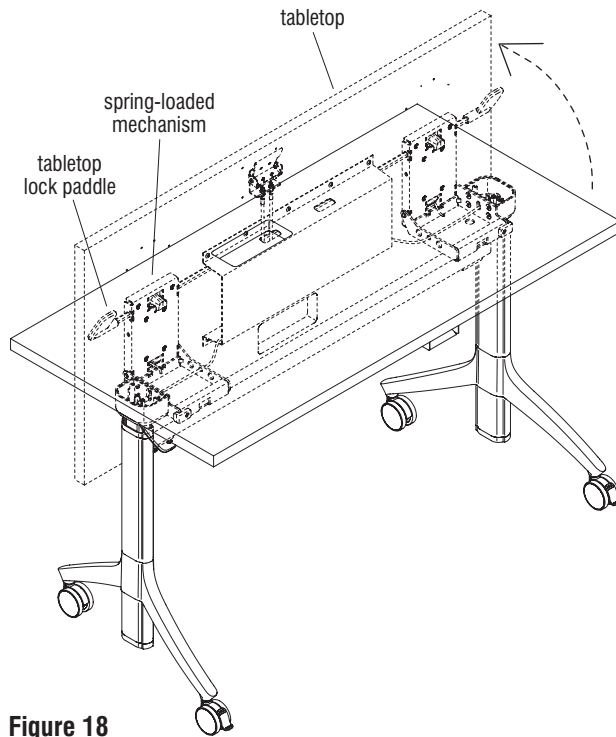

Figure 18
41. Lift one tabletop lock paddle and open the table to the nesting position (Figure 18).